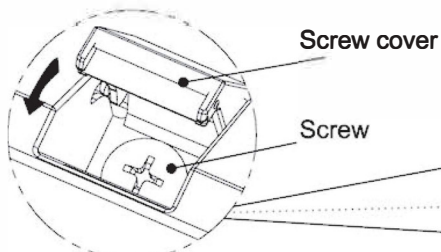

Fig.C.5.23
11) Install the screws and close the screw covers as shown in Fig. C.5.23 (Note: For some models, you need to install 3 screws.)